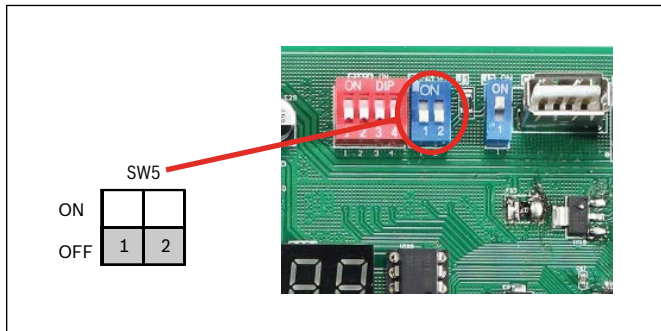

Figure 44
- To display system parameters, press the "Check" button to index through the series of parameters available. The first time you press the "Check" button, it will display the sequence, and after 1 second it will display the value of the parameter. If you press the "Check" button again, it will display the next sequence. Refer to Figure 44 and 45 for check button location on the control board.